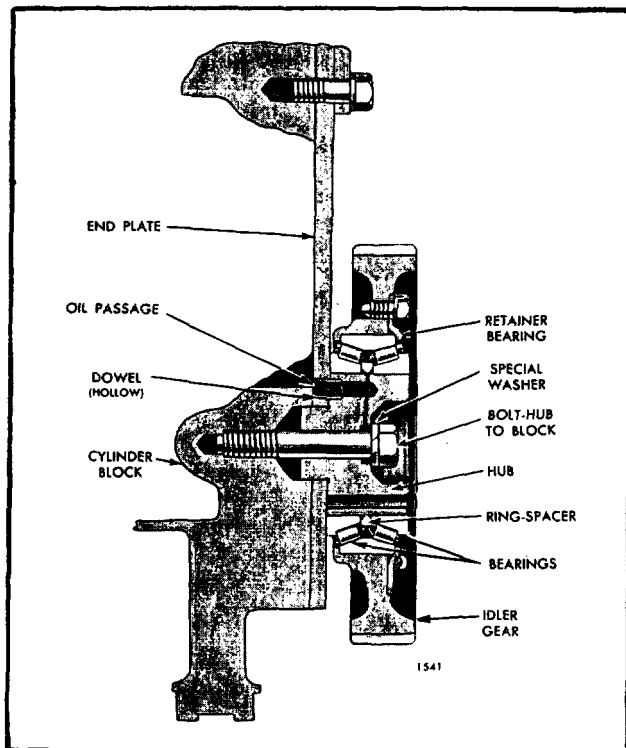

Fig. 1. Idler Gear Mounting Typical
A right-hand helix gear is provided for left-hand rotation engines, and a left-hand helix gear is provided for right-hand rotation engines. Since the engine is right hand rotation a left-hand helix gear is used. (Fig. 1 on Page 10-2-103).
1. Remove the idler gear hub to cylinder block bolt and washer (Fig. 1) and withdraw the assembly from the cylinder block rear end plate.
2. Remove the idler gear hole spacer (Fig. 1 on Page 10-2-103) in the same manner if the engine is being completely reconditioned.